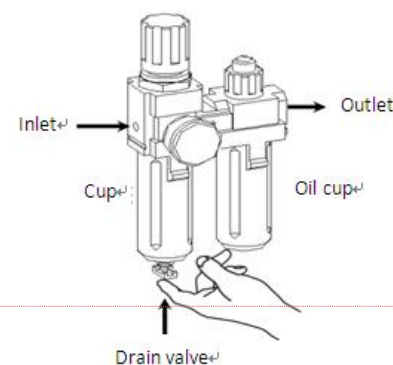

Fig 36-1
- As shown in Figure 36-1, when you found there are some water in the cup, push up the drain valve to drain away water with your fingers; loosen your fingers after drained water, drain valve can be automatic closed under the action of the spring.